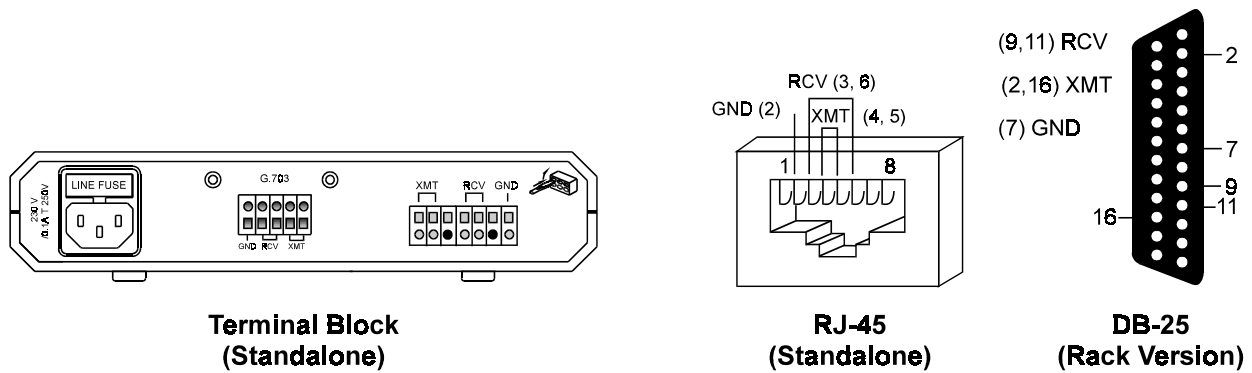

Figure B-1 IR-G.703 Connector Options
- **The Rack version** is mounted on the rack version modem card and uses the modem edge connector for communication. The edge connector is wired, on the motherboard of the card cage, to the DB-25 connector on the back plane of the ASM-MN-214 card cage. *Figure B-1* illustrates the pinout of the different connectors.
In Figure B-1, RCV refers to the input signals to the IR module; XMT refers to the output signals from the module.